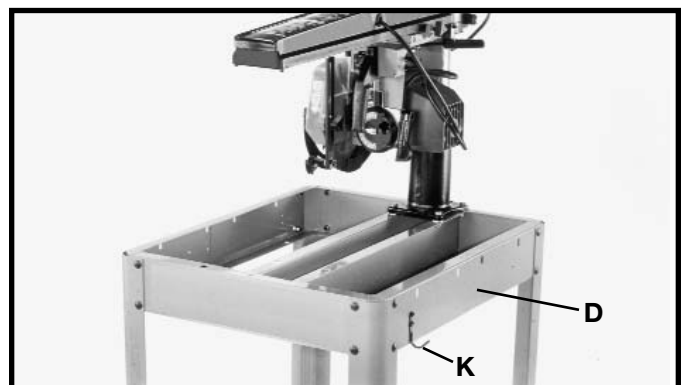

Fig. 10
Assemble wrench hook (K) Fig. 10, to the front right (as shown), or back left, side of saw base (D), using two #10 x 1/2" sheet metal screws.